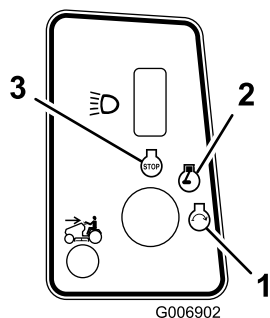

Figure 11
4. Turn the ignition key clockwise and hold it in the Start position (Figure 11). When the engine starts, release the key.
2. Turn the ignition key to the Off position, wait for all moving parts to stop, and remove the key before leaving the operating position. (Figure 11).